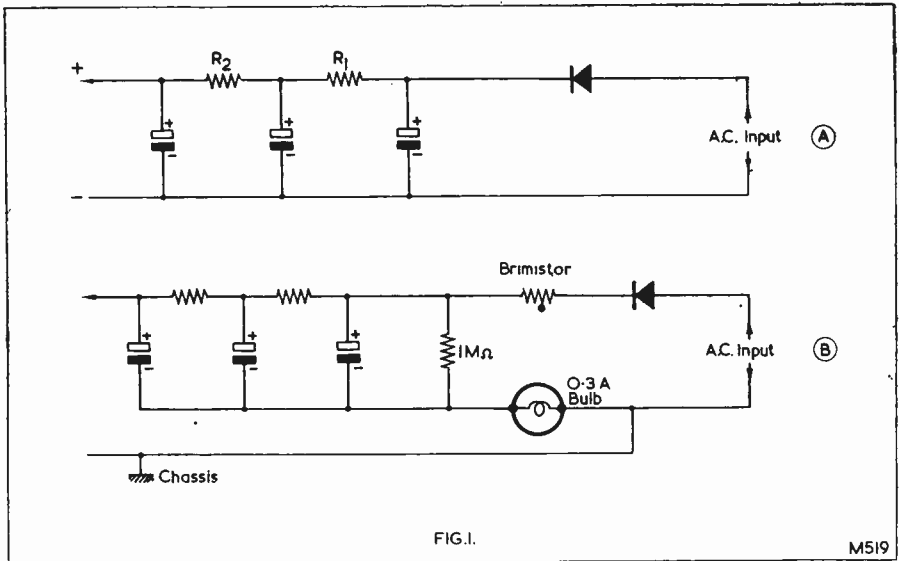

FIG. 1.
(1) Fig. 1 (b). All electrolytic condensers connected to h.t. or to reduced h.t. must be joined to the line A-B, otherwise the protection will be only partial.
(2) Fig. 2 (b). The bias network is connected between valve and chassis. It is essential that it is *not* joined to the line A-B on Fig. 1 (b), as a short in an h.t. electrolytic condenser places this line at h.t. potential and the heater/cathode insulation of the average valve certainly will not withstand such a high voltage.